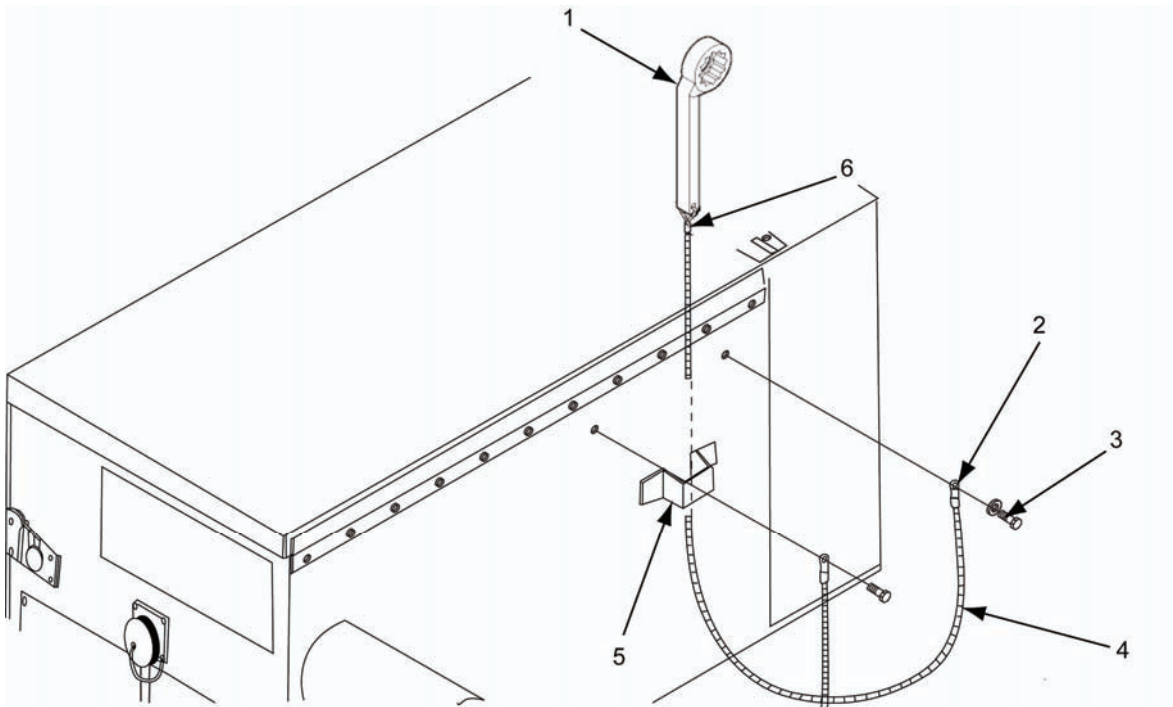

Figure 4-11.2. Switch Box Load Terminal Wrench Assembly Replacement (B&C Models)
1. Drill out rivet (3, figure 4-11.2) that secures rope (4) to switch box.
2. Remove box wrench (1) with attached rope (4) from loop clamp (5).